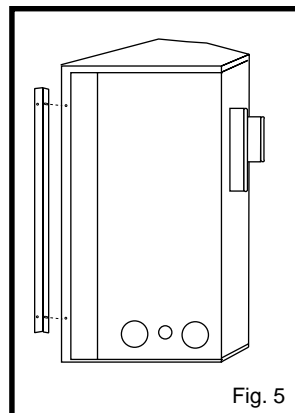

Fig. 5
5. Screw through slotted holes in drywall strip and then screw into pre-drilled holes on fireplace side. Measure from face of fireplace to face of drywall strip to determine final depth. (Fig. 5 & 6)